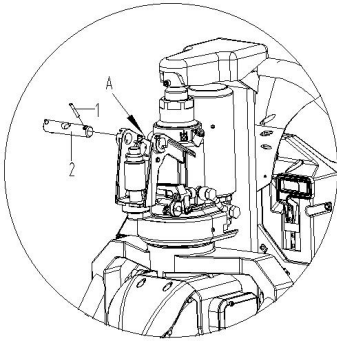
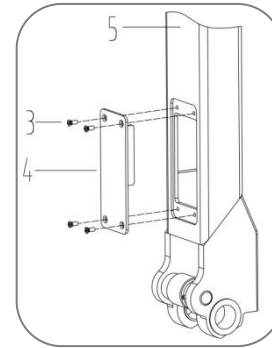

Fig. 1
Fig. 2
3. Insert handle assembly 5 (Fig. 2) into A (Fig. 1), connect handle assembly 5 to pump body 10 by pin 2. Thread the rod chain 8 through the hole of pin 2. Pull the handle to horizontal position, take out pin 9 and save it for next time use.